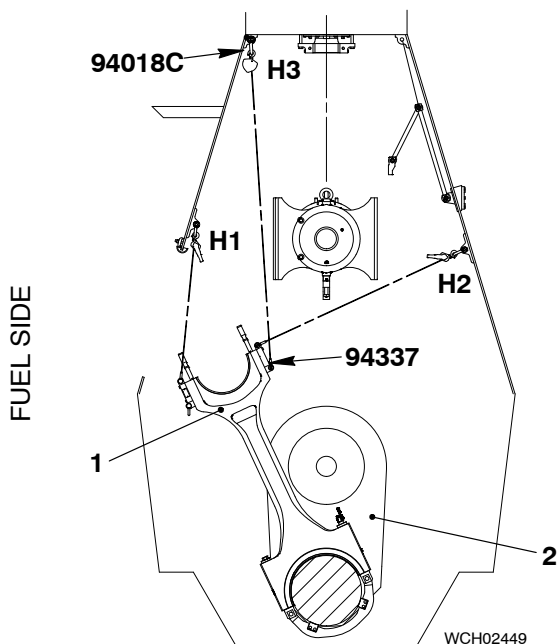

Fig. 12
- 20) Operate the turning gear and the chain block (H3, Fig. 12) to move the connecting rod (1) and crankshaft (2) clockwise into the position shown.
- 23) Use the turning gear and the chain block (H3) to move the connecting rod (1) and crankshaft clockwise into the position shown.